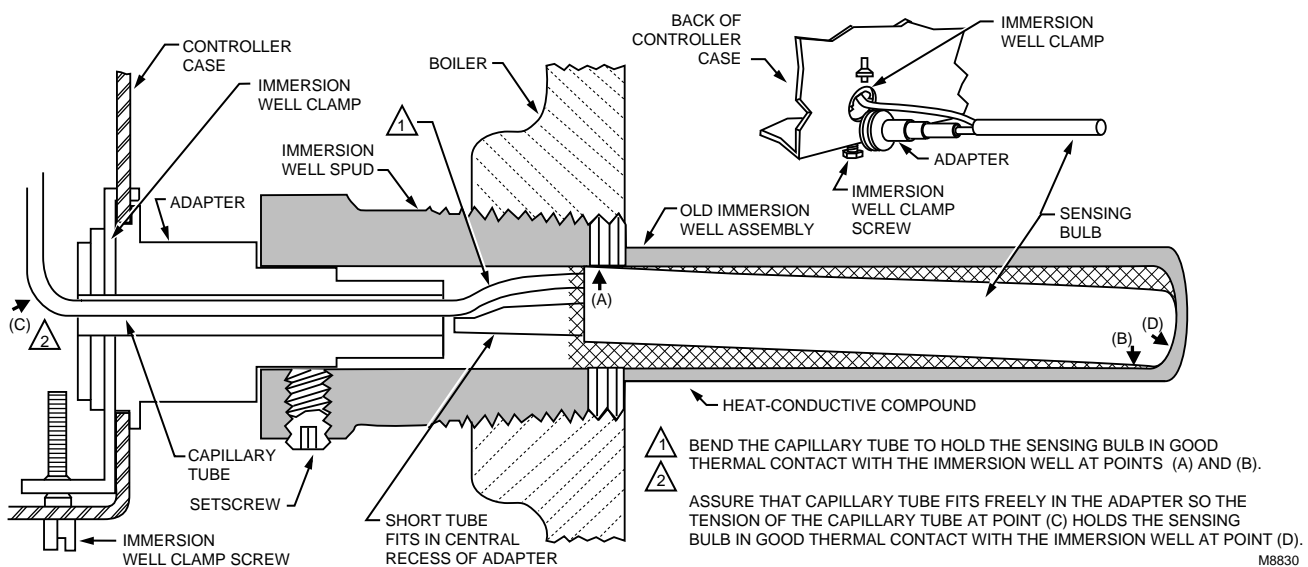

Fig. 9. Positioning the sensing bulb in the immersion well.
Be sure that the sensing bulb fits snugly inside the immersion well and that the sensing bulb rests against the bottom of the immersion well. Refer to Fig. 9.
3. Fasten the R8182D immersion well clamp to the flange on the immersion well adapter. Refer to Fig. 9.
4. Loosen the immersion well clamp screw. See Fig. 9.